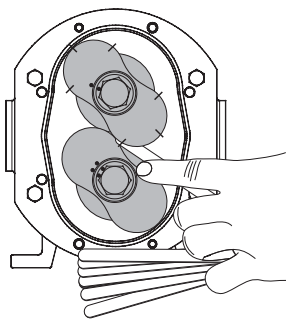

Figure 16
1. Measure the interlobe clearances using a feeler gauge set in the positions shown in figure 16. If these clearances are outside the tolerances given in § 7.2 ("interlobe" column), the rotor synchronization needs resetting.